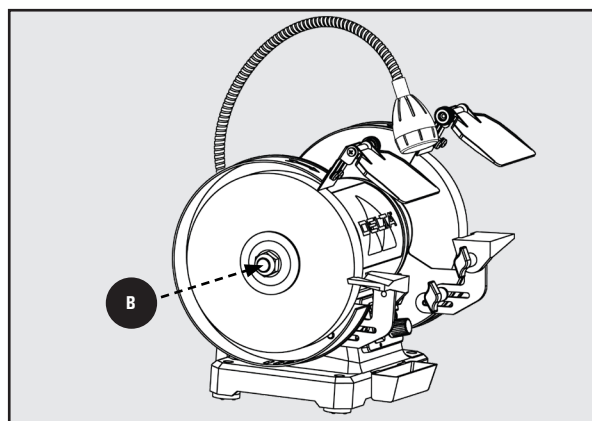

Figure 5
3. Using 24mm wrench, tighten the arbor nut **B** while using the other hand to keep the wheel from moving. Tighten the arbor nut snug. See Figure 5.